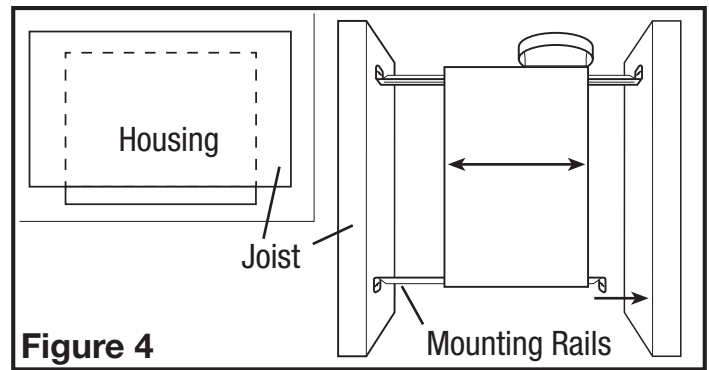
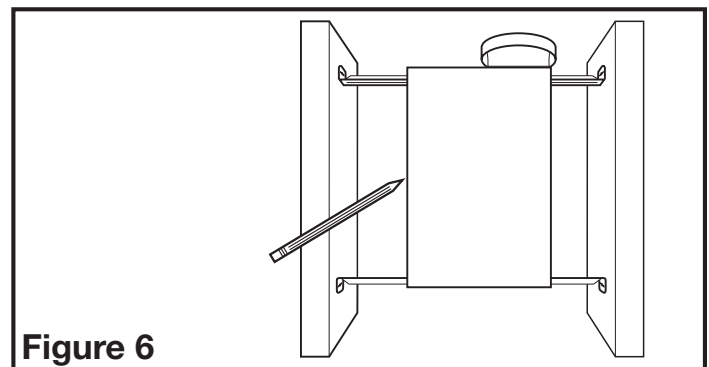

Figure 4
Figure 6
1. **Mounting Rail Installation:** Install the rails on the housing and position the housing next to the joist. Line up housing so it will be flush with the finished ceiling. Secure the ends of the rails with screws or nails (not included) to the joists and slide housing into final position (Figure 4).
1. **Mounting Rail Installation:** Set housing in position between the joist and trace an outline onto the ceiling material (Figure 6). Set housing aside and cut opening, being careful not to cut or damage any electrical or other hidden utilities. Install the rails on the housing and position the housing in the previously cut hole so that it is flush with the finished ceiling. Secure the ends of the rails to the joists with screws or nails (not provided) to ensure proper installation (Figure 4).